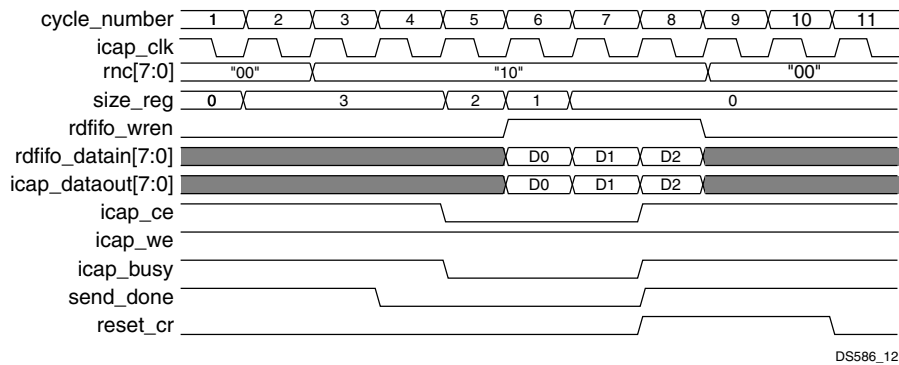
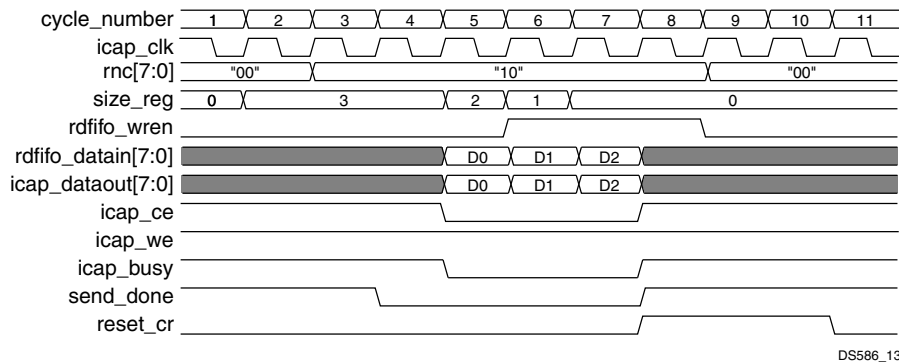
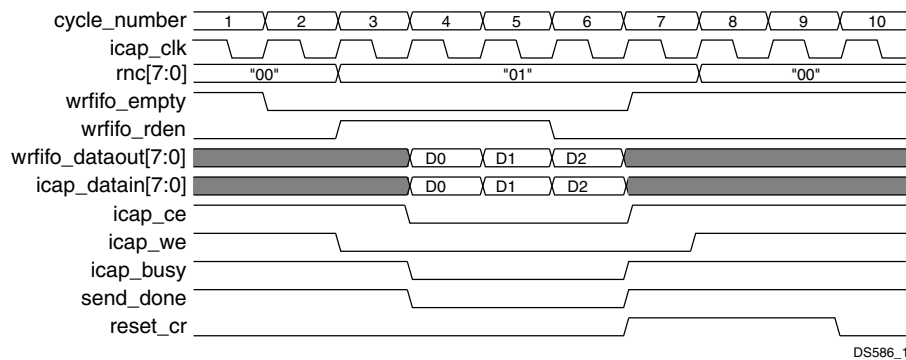

Figure 16: Read Cycle for Virtex-6 Devices
Figure 17: Read Cycle for Spartan-6 Devices
Figure 18: Write Cycle
- Write in to the Control Register to initiate the read or write of a bitstream. The CR register determines the direction of the data transfer. Writing "0x00000001" into the Control Register initiates the write configuration. Writing "0x00000002" into the Control Register initiates the read. This is shown as `rnc [7:0]` in Figure 16, Figure 17 and Figure 18.
- Write into the Control Register to initiate the read or write of bitstream. The CR register determines the direction of the data transfer. Writing "0x00000001" into the Control Register initiates the configuration. Writing "0x00000002" into the Control Register initiates the read. This is shown as `rnc [7:0]` in Figure 16, Figure 17 and Figure 18.
The timing diagrams shown in Figure 16, Figure 17, and Figure 18 show the read and write cycles of AXI HWICAP core for the Virtex-6 and Spartan-6 FPGAs.